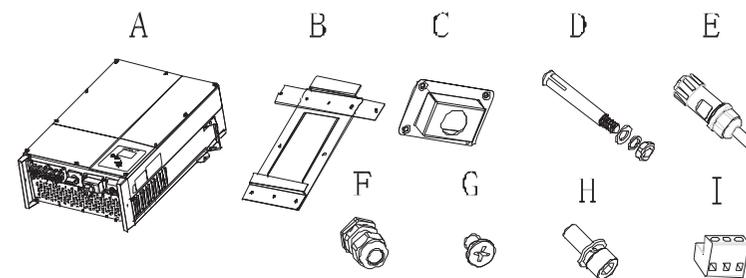

Fig4.1
- Fix the mounting frame on the wall as the figures shown below, combine as the screws as the Items Fig 4.1 shows (items D)